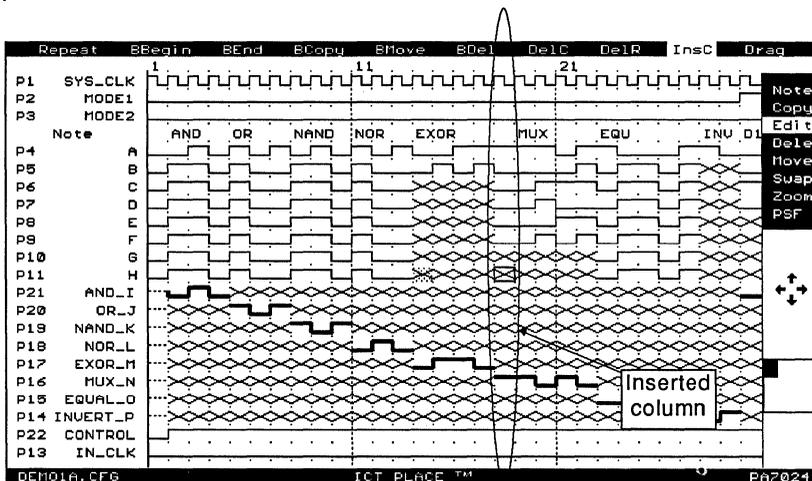

Figure 4-51, Inserting a vector column
- InsC Enters a mode to allow vector columns to be inserted. The vector column is inserted prior to the selected vector column (Figure 4-51). Additionally, the signals on the new column follow the selected vector column.